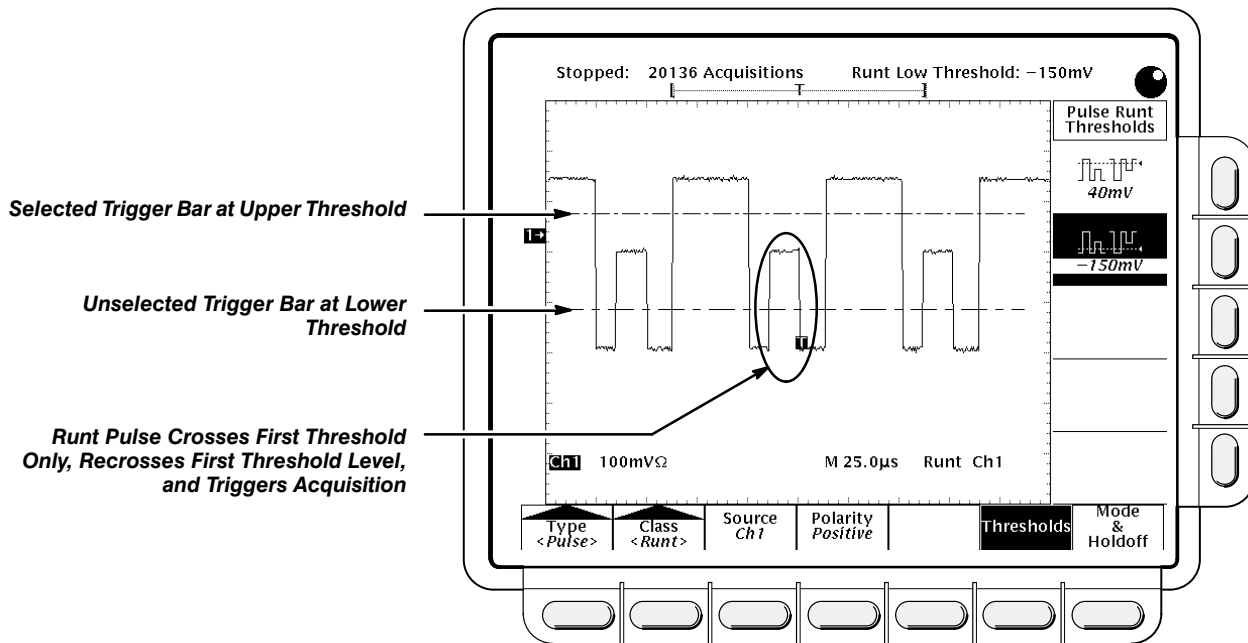

Figure 3-58: Main Trigger Menu—Runt Class
1. Press **TRIGGER MENU** → **Type** (main) → **Pulse** (pop-up) → **Class** (main) → **Runt** (pop-up) → **Source** (main) → **Ch1**, **Ch2**, **Ch3** (**Ax1** on the TDS 620A), or **Ch4** (**Ax2** on the TDS 620A) (side). (See Figure 3-58.)
Note the position of the trigger indicator in Figure 3-58. Triggering occurs at the point the pulse returns over the first (lower) threshold going negative without crossing the second threshold level (upper). Be aware of the following considerations when using Runt triggering: